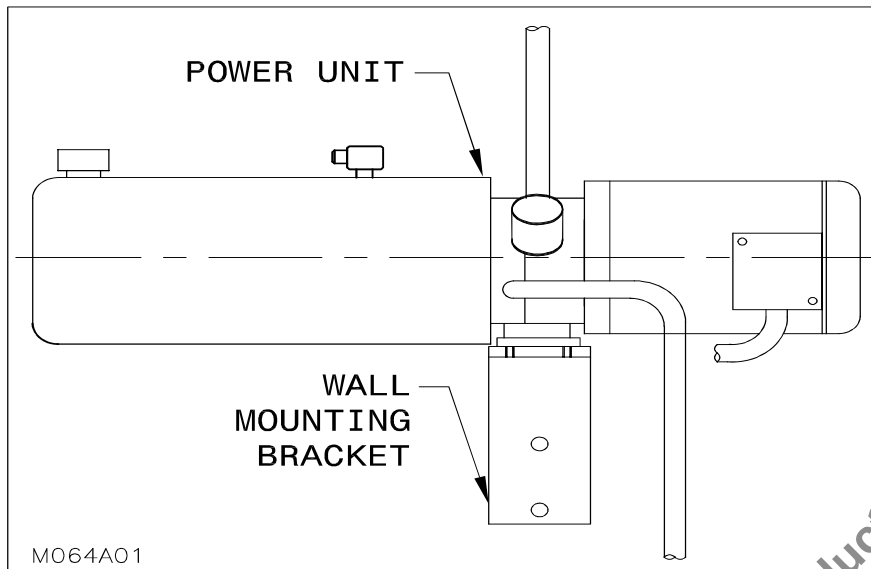
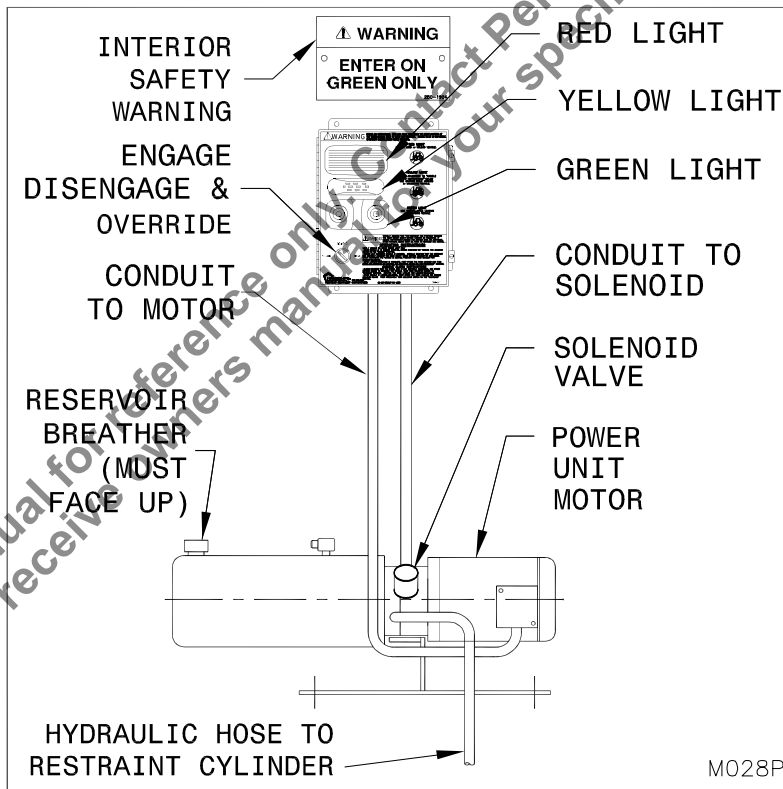

Figure 9: Wall Mounted Power Unit
Figure 10: Power Unit and Control Panel
1. ___ Mount the power unit horizontally with the reservoir breather facing up (See “Figure 10: Power Unit and Control Panel” on page 11). When mounting the power unit on a wall, position the power unit above the wall bracket keeping the ½” wall mount holes below the power unit. This ensures easier access to all the wall bracket holes when mounting the power unit (See “Figure 9: Wall Mounted Power Unit” on page 11). Note: The hydraulic power unit and the control panel are important components of the equipment. It is important that they be installed in a location that is free from dirt, debris and splashing and / or wash down. The location should also be free from the likelihood of impacts. Each application has different conditions and design features. Evaluation of the specific site conditions and parameters in conjunction with common sense should be used to determine the appropriate hydraulic power unit and control panel installation location.